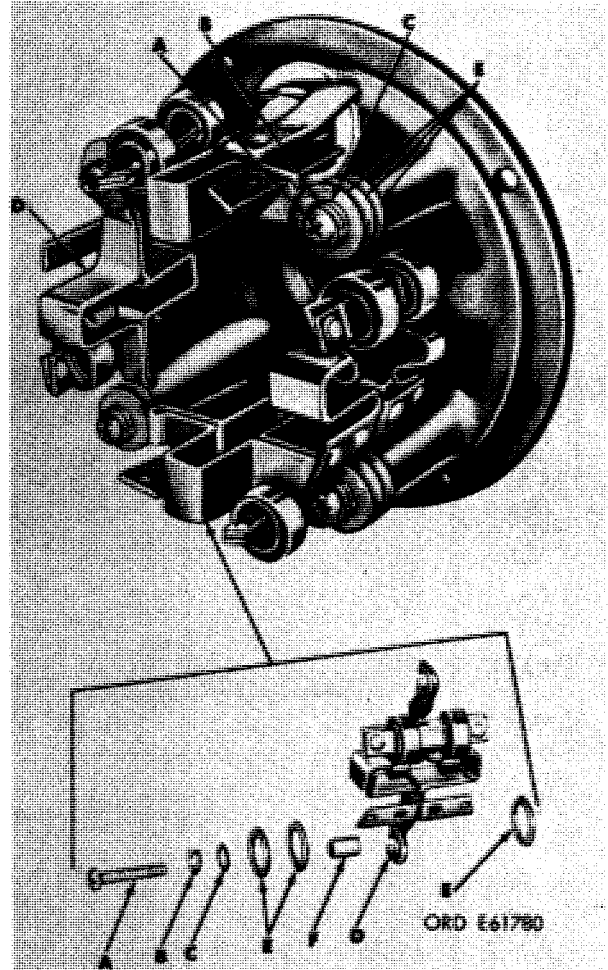

Figure 3-22. Removing or installing brush spring holders.
b. Remove one cross-recessed head screw (A, fig. 3-22), one double-coil lockwasher (B), and one insulating washer (C), at each of four brush holder supports. Remove and separate the four brush holder and spring assemblies (D), twelve insulating washers (E), and insulating bushing (F).